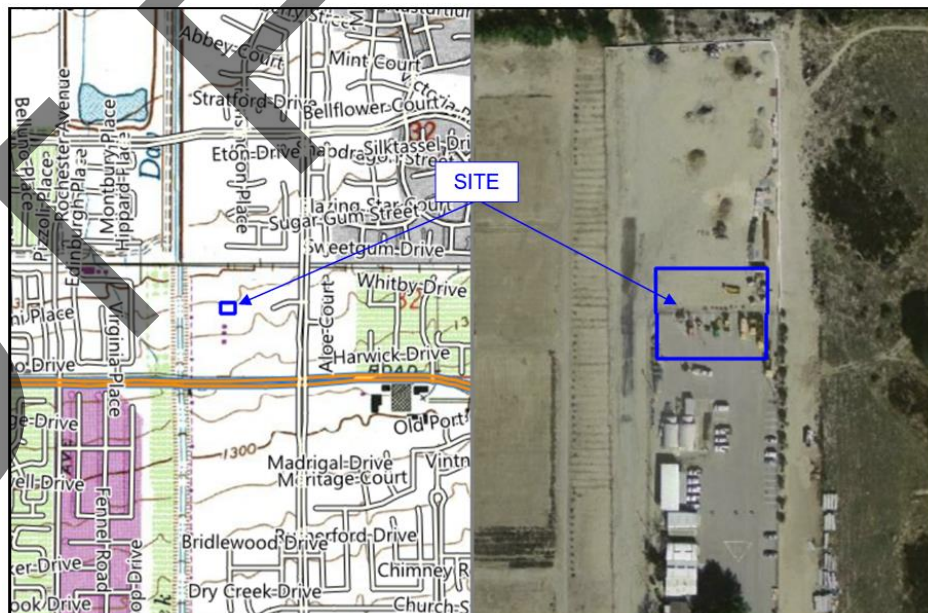

Figure 1: USGS Topographic Map, Guasti 7.5' Quadrangle, and Aerial Photograph (2018)
1.3 *Location of Land:* The existing San Bernardino County Public Works Department Rancho Yard is located at 12158 Baseline Road in the City of Rancho Cucamonga, California. The Assessor Parcel No. for the subject site is 1089-031-39. The site rests in the southwesterly portion of Section 32, Township 1 North, Range 6 West, S.B.B.&M. The site coordinates are $\pm 34.1236^{\circ}\text{N} / -117.5395^{\circ}\text{W}$ (WGS 84). The site is bounded to the west by a storage yard, to the east by a shopping center and Day Creek Boulevard, to the north by the Pacific Electric Bike Trail, and to the south by Baseline Road. The location of the proposed building and OWTS are shown on the vicinity map below (Figure 1).